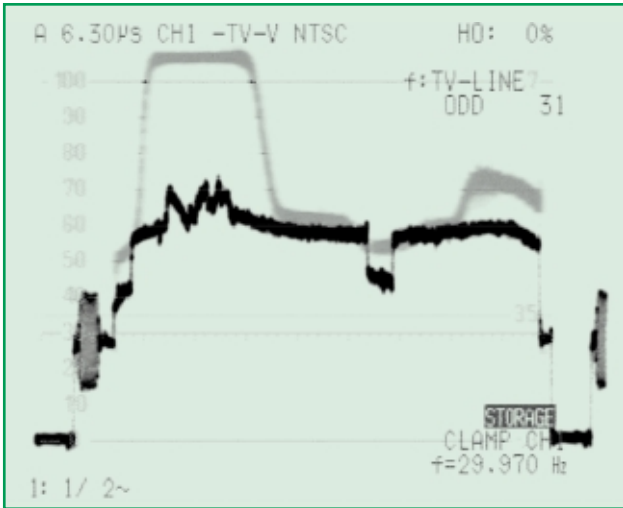

Figure 6: TV Line Trigger (ODD 31); Bottom trace is live feed, top trace is stored.
- b) ODD (Odd Field Lines): The sweep is triggered by the selected horizontal synchronization signal in the odd-numbered field (See Figure 6).